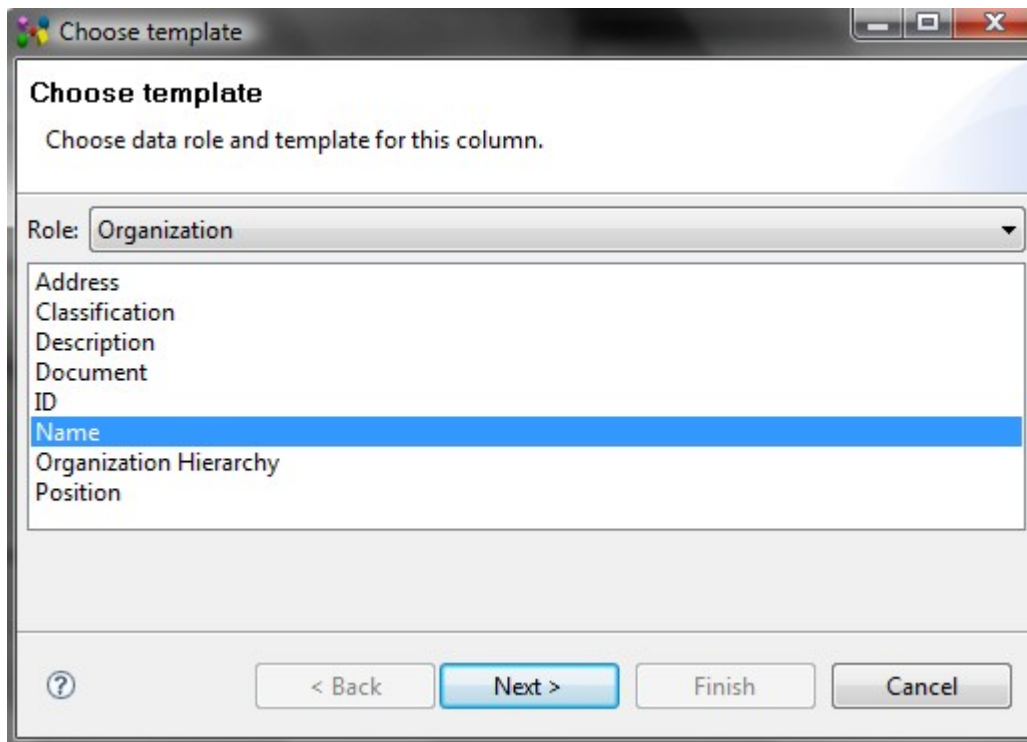

Figure 6. Choose template wizard page
- Press **Choose** button next to the **Column value type** field to define the column template. The **Choose template** wizard appears on the screen (see Figure 6):